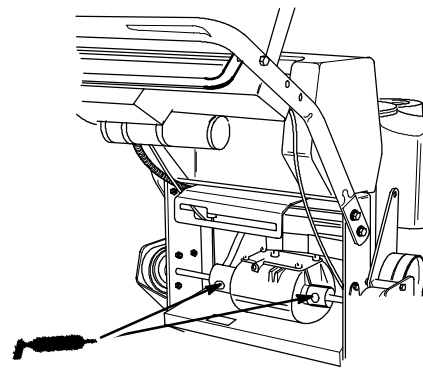

Figure 28
2. Lubricate the transmission couplers (Fig. 28).